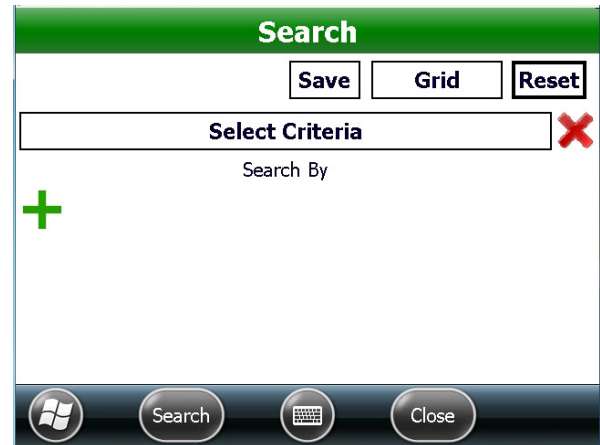

Figure 60: Search
*Result: The Search screen displays as shown in Figure 60.*